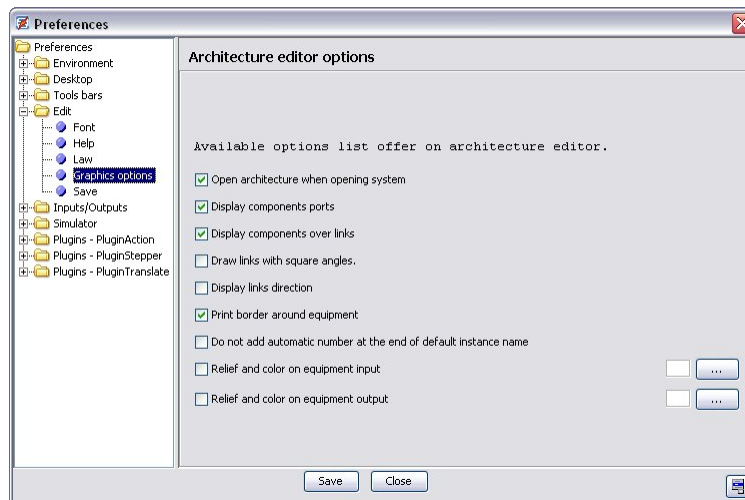

Figure 98: Graphics options sub-rubric
- The Graphics options sub-rubric (Figure 98) allows customization of the tool with the following options: